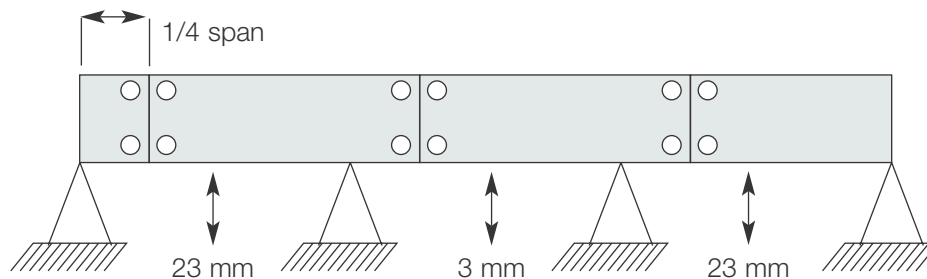

Figure 1.4
**Location of Couplers.** (see **Figure 1.4**) The location of the coupler dramatically affects the deflection of a cable tray system under equal loading conditions. Testing indicates that the maximum deflection of the center span of a three-span tray run can decrease four times if the couplers are moved from one-quarter span to above the supports. This can be a major concern for designers considering modular systems for tray and pipe racks.